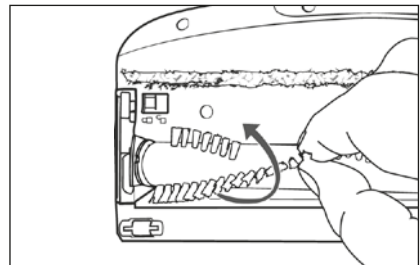

Fig. 25
- 3) Pull the rotary brush **20** out of the floor brush **21** by the bristles. Turn the rotary brush **20** slightly to make it easier to remove (see Fig. 25).